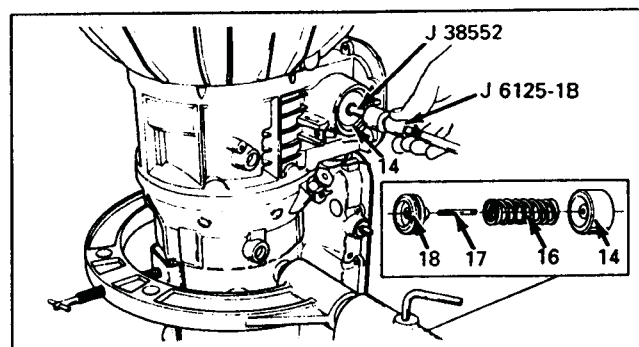

Figure 35
9. Position the slide hammer assembly into the bore of the accumulator cover as shown in Figure 35, and turn the cover remover clockwise to expand inside the bore of the accumulator cover. Tighten securely with a wrench.
13. Remove the 3-4 accumulator piston spring, pin, and piston as shown in Figure 35.